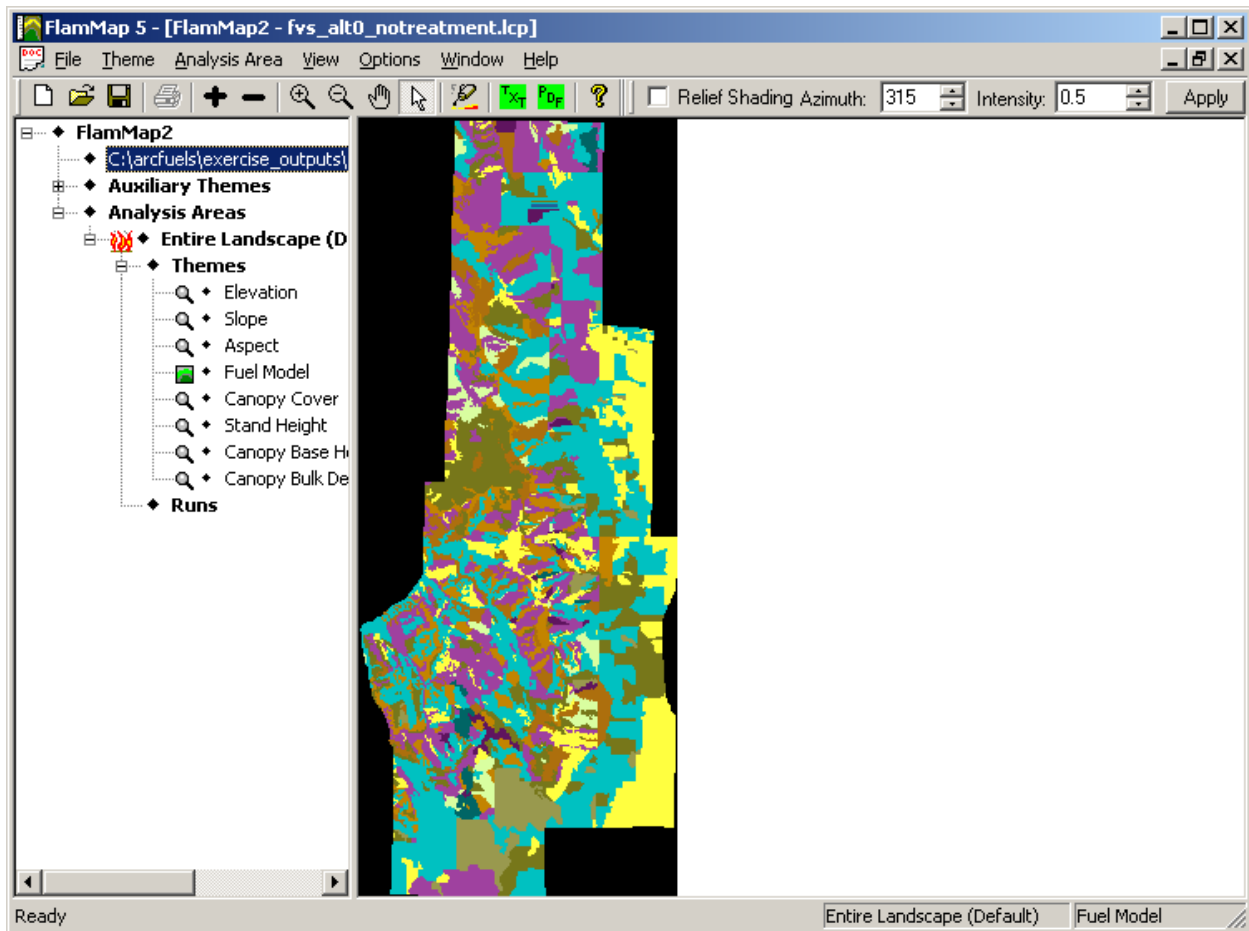

Figure 4-54—No treatment landscape from FVS data.
- a) Double-click **? No Landscape File** in the tree pane, and navigate to the fvs_alt0_notreatment.lcp file (C:\arcfuels\outputs if you have completed the ArcFuels10 Tutorial exercises or C:\arcfuels\exercise_outputs\Tutorial, fig. 4-54).